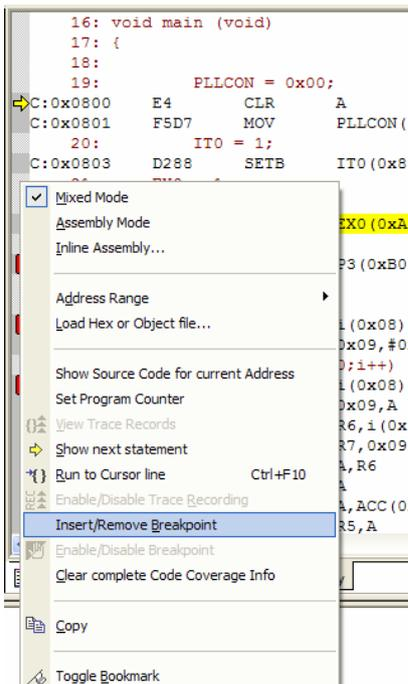

Figure 6
- 1). You can set the breakpoint at places where you hope the program stops. You can press the right key of the mouse at the place like Figure 6, and click the “Insert/Remove Breakpoint”, then there will be a red point at the head of the current row.